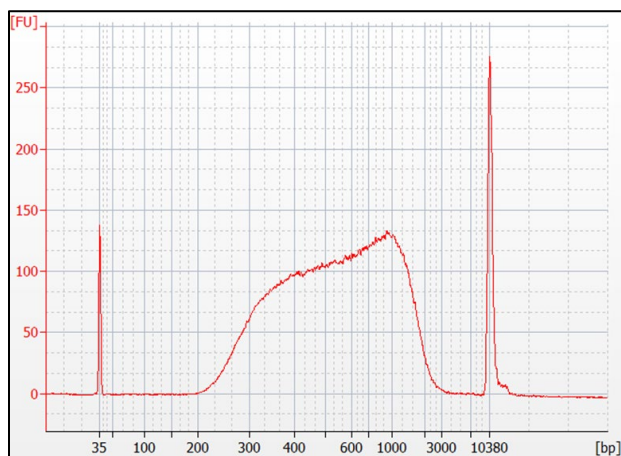

Figure 50. Example electropherogram from a library prepared from K-562 nuclei and quantified using the Agilent 2100 Bioanalyzer.
4. Use the Bioanalyzer results to determine library quality. See Figure 50, below, for an example of a typical Bioanalyzer profile for an NGS library that has been successfully purified and size selected.